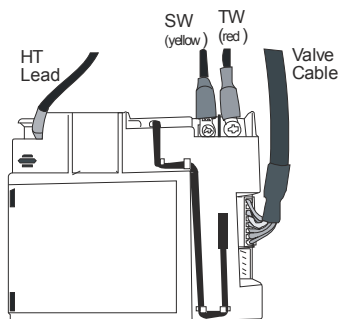

Figure 77
2. Gently pull out the HT lead and the valve cable from the receiver (see **Figure 77**).